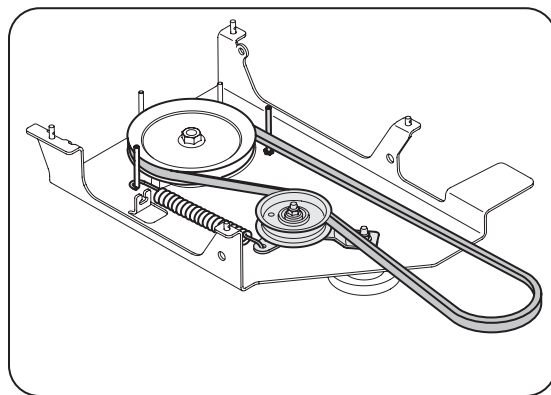

Figure 4-2
2. Refer to Figure 4-2 for correct position.